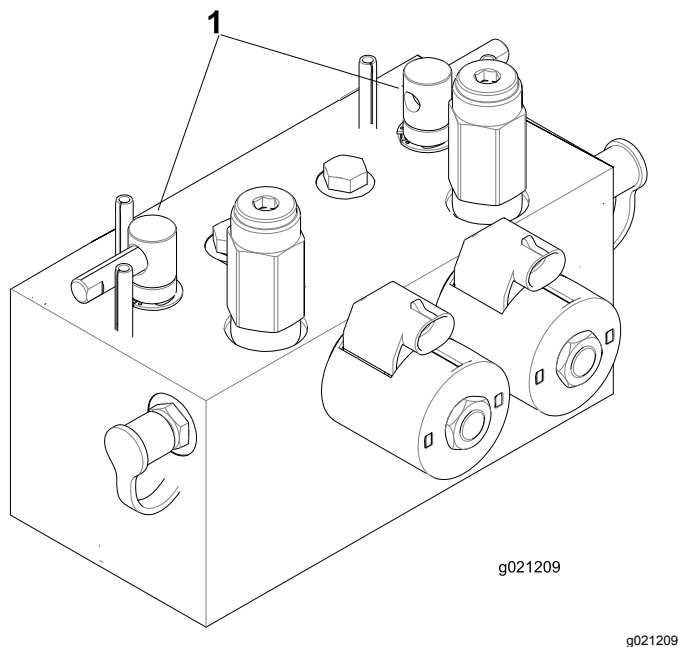

Figure 106
2. Unlock and raise the seat to expose the backlap levers (Figure 106).
5. Select either front, rear, or both backlap levers to determine which units to backlap (Figure 106).